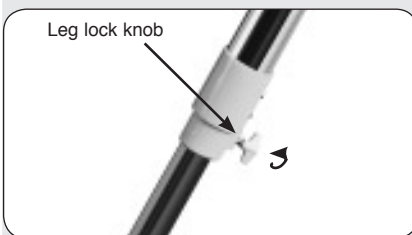

Fig. 11: Adjust the tripod height using the leg lock knob.
11. Adjust the height of the tripod: Adjust the height of the tripod by loosening the tripod lock knobs (Fig. 11). Extend the sliding inner section of each tripod leg to the desired length; then tighten each knob. Adjust the tripod to a height that is comfortable for viewing.